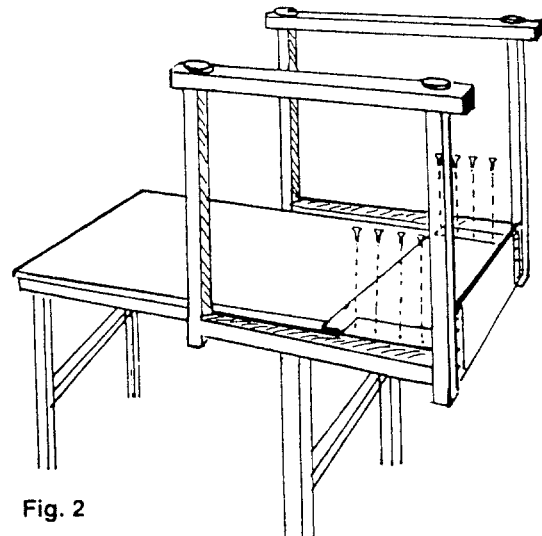

Fig. 2
- PLEASE NOTE: (1) Take care that weight of leg section does not cause rear panel to suddenly lift up.
(2) Be sure rear panel and leg sections are snug to each other.
- 3) Set the shelf (C) on the edge of table top (Fig.2) with pre-drilled holes facing up. Carefully set upside-down base over shelf so that all holes on shelf and flanges line up and face each other. Thread in all screws while keeping shelf snug to leg sections, rear panel and flanges.